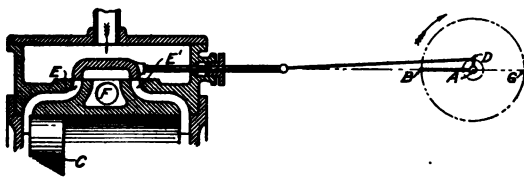

Fig. 10. Elementary Slide Valve—Valve in Mid-Position
**Elementary Slide Valve.** Fig. 10 represents an elementary slide valve. In order to indicate the movements of the crankpin and the valve eccentric on one drawing, the crankshaft center is located at